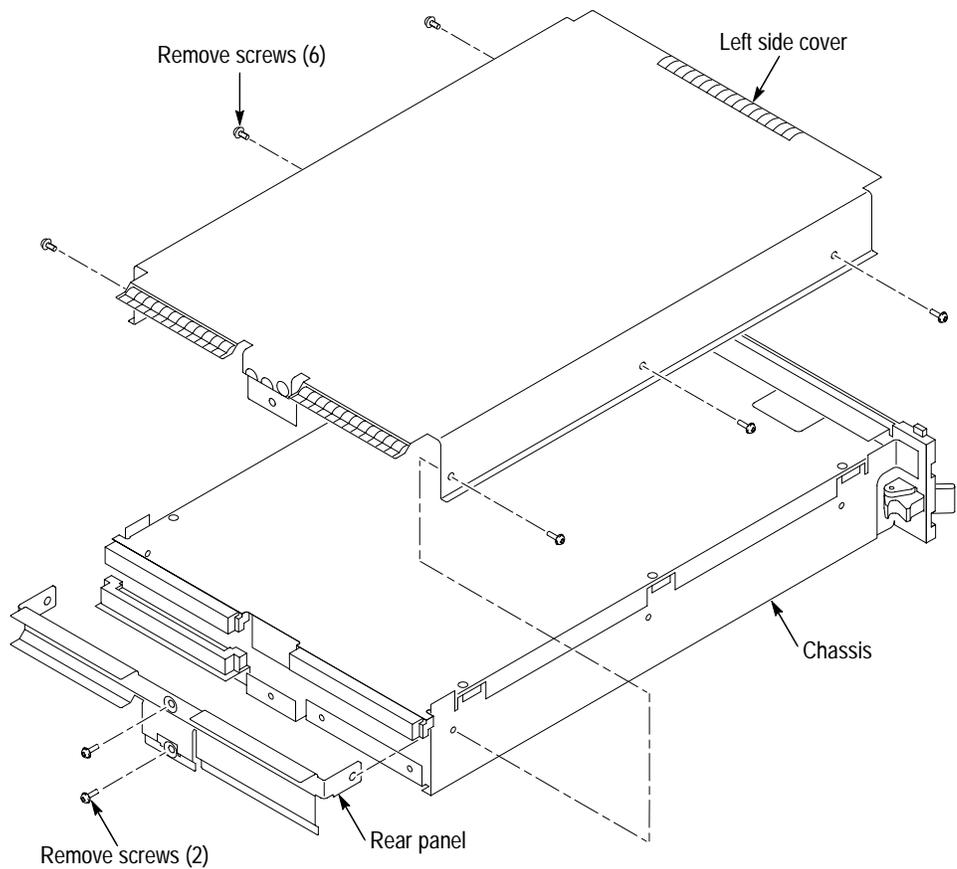

Figure 5: Left side cover and rear panel removal
1. Place the module on its right side as shown in Figure 5.
3. Remove the two screws from the rear panel. (See Figure 5.)